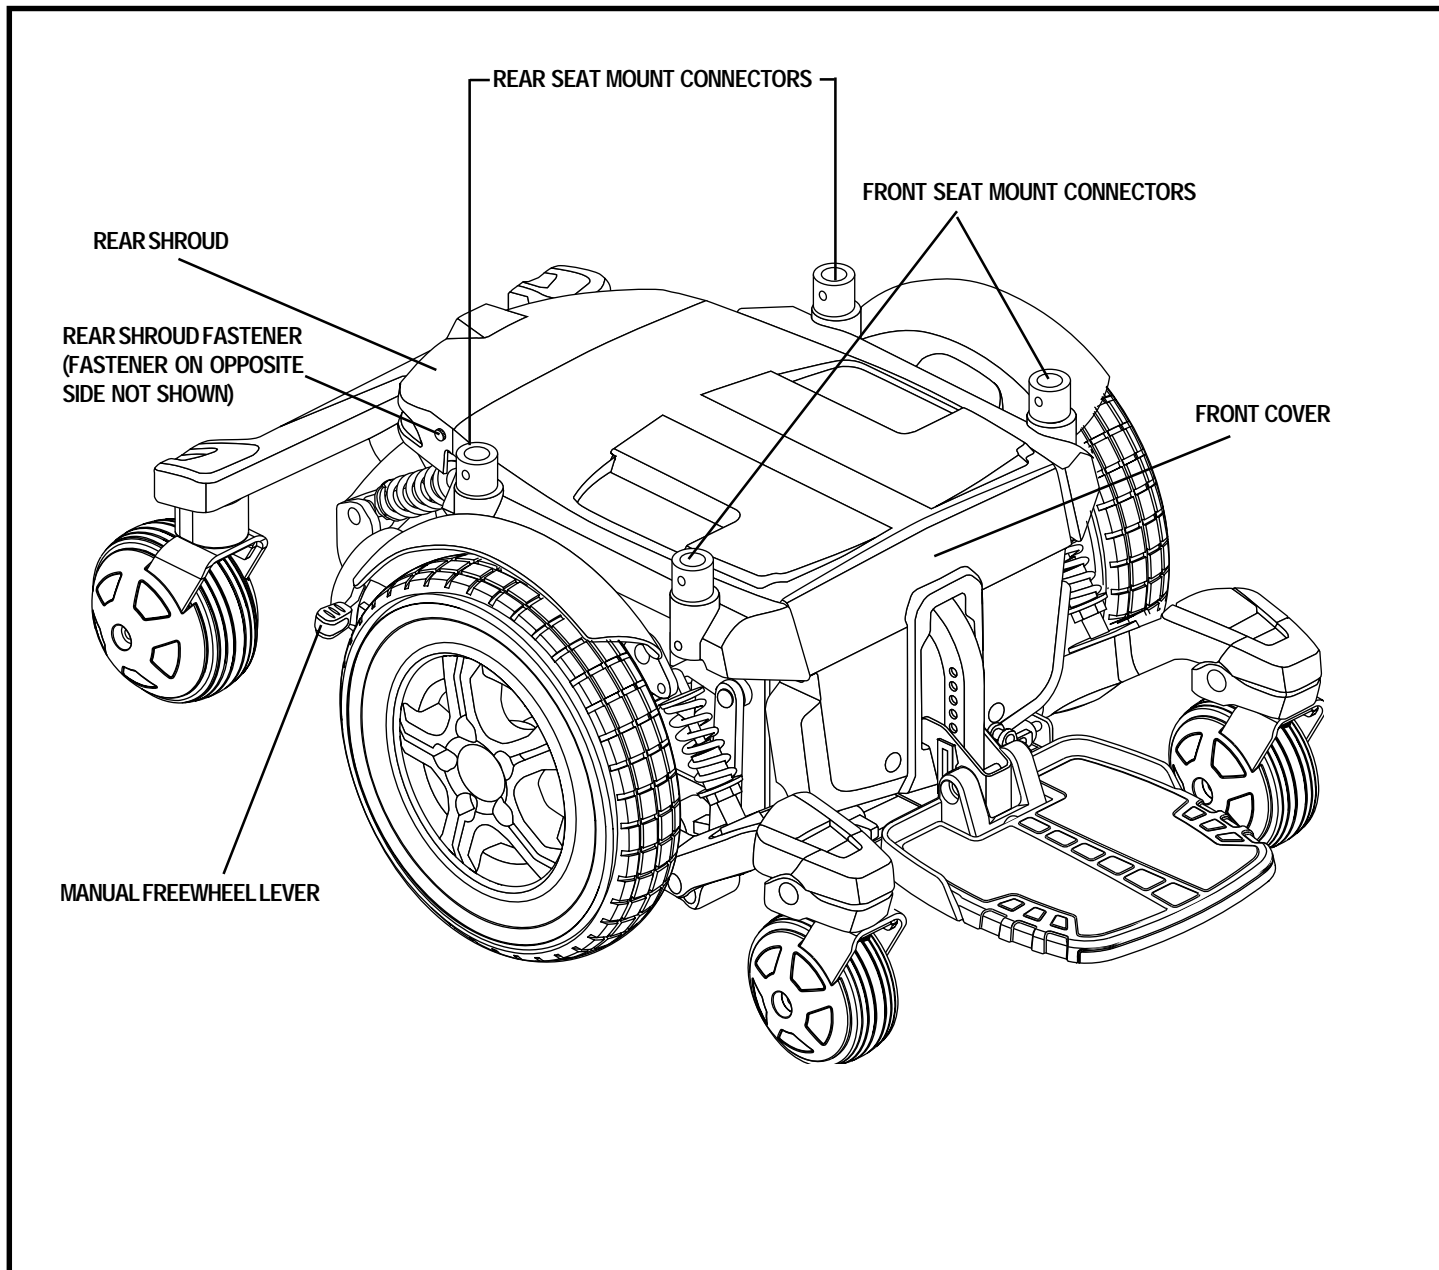

Figure 6. The Quantum 6000 Power Base
5. Loosen the rear shroud fasteners and remove the rear shroud. See figure 6.
7. Replace the rear shroud and tighten the rear shroud fasteners. See figure 6.
3. Loosen the rear shroud fasteners and remove the rear shroud. See figure 6.